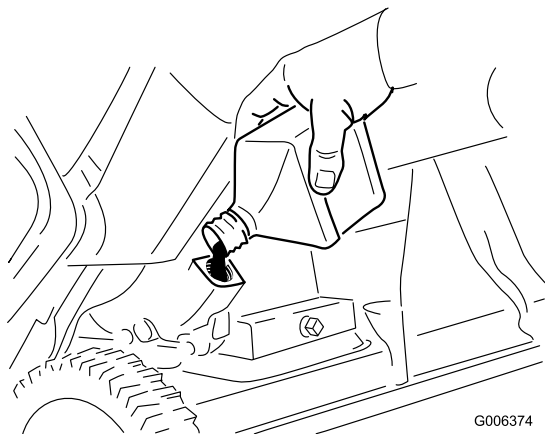

Figure 32
8. With the machine in the operating position, **carefully** pour oil into the oil fill hole. Wait 3 minutes for the oil to settle and add enough to bring it to the point of overflow. There should be very little, if any, oil left in the bottle.(Figure 32).